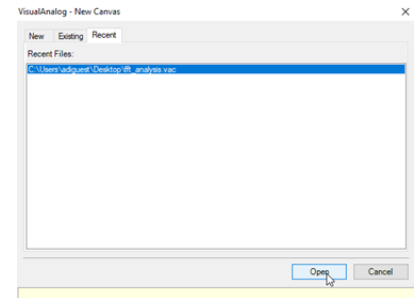

Figure 69. Opening the VisualAnalog - New Canvas
- ▶ Open the **fft\_analysis.vac** canvas from the Desktop. The canvas may also be opened from the **Recent** tab in the **New Canvas** window when **VisualAnalog** opens (see Figure 69).